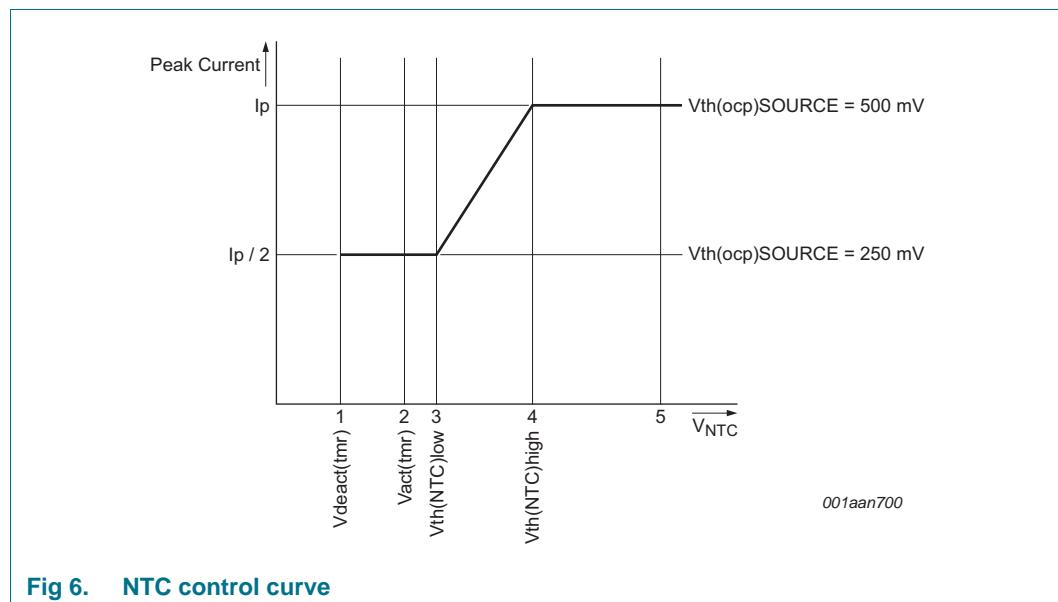

Fig 6. NTC control curve
The NTC pin can be used as a control method for LED thermal protection. Alternatively, the pin can be used as an input to disable/enable light output using a digital signal (PWM dimming). The pin has an internal current source that generates the current of $I_{\text{offset}(\text{NTC})}$. An NTC resistor to monitor the LED temperature can be directly connected to the NTC pin. Depending on the resistance value and the corresponding voltage on the NTC pin, the converter reacts as shown in Figure 6.
When the voltage on the NTC pin is higher than $V_{\text{th}(\text{high})\text{NTC}}$ see Figure 6 (4), the converter delivers nominal output current. When the voltage is lower than this level, the peak current is gradually reduced until $V_{\text{th}(\text{low})\text{NTC}}$ is reached, see Figure 6 (3). The peak current is now half the peak current of nominal operation. When $V_{\text{act}(\text{tmr})\text{NTC}}$ is passed, see Figure 6 (2) a timer starts to run to distinguish between the following situations:
- If the low-level $V_{\text{deact}(\text{tmr})\text{NTC}}$ is not reached within time $t_{\text{to}(\text{deact})\text{NTC}}$, Figure 6 (1) LED overtemperature is detected. The IC stops switching and attempts to restart from the HV pin voltage. Restart takes place when the voltage on NTC pin is higher than $V_{\text{th}(\text{high})\text{NTC}}$, see Figure 6 (4). It is assumed that the reduction in peak current did not result in a lower NTC temperature and LED OTP is activated.
- If the low-level $V_{deact(tmr)NTC}$ is reached within the time $t_{to(deact)NTC}$, Figure 6 (1) it is assumed that the pin is pulled down externally. The restart function is not triggered. Instead, the output current is reduced to zero. PWM dimming can be implemented this way. The output current rises again when the voltage is higher than $V_{deact(tmr)NTC}$.
The NTC pin can be used to make a soft start function. During switch-on, the level on the NTC pin is low. By connecting a capacitor (in parallel with the NTC resistor), a time constant can be defined. The time constant causes the level on the NTC pin to increase slowly. When passing level $V_{th(low)NTC}$ Figure 6 (3), the convertor starts with half of the maximum current. The output current slowly increases to maximum when $V_{th(high)NTC}$ Figure 6 (4) is reached.